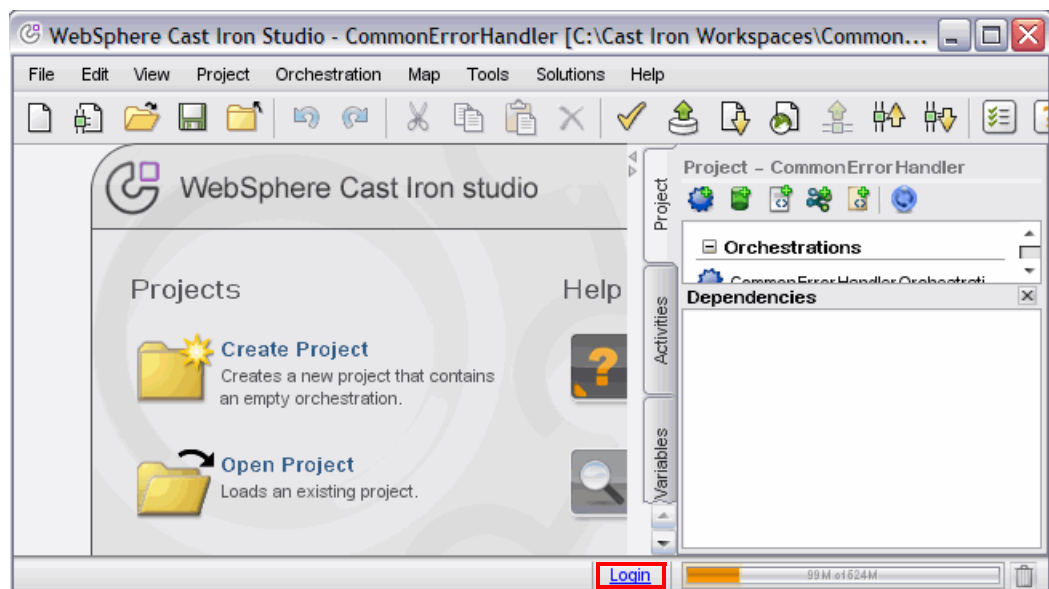

Figure 7-4 Login option
4. Log in to the community by clicking **Login** in the status bar, as shown in Figure 7-4.